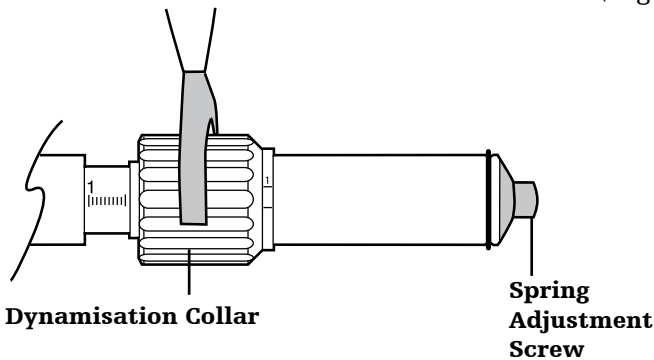

Fig.15
- The Biocompression Collar allows the user to set the amount of micromotion at the fracture site. Although the collar opens to 3mm, it is not recommended to open it more than 1mm (Fig.15)